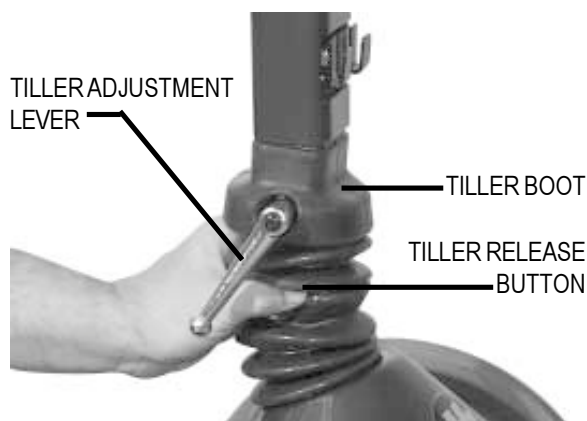

FIGURE 9A. ADJUSTING THE TILLER ANGLE
1. Turn the tiller adjustment lever counterclockwise until it is loose. If the tiller adjustment lever comes in contact with the tiller basket, pull it outward, turn it clockwise, and release it. Continue to loosen until the tiller is able to move. See figures 9A and 9B.
8. Turn the tiller adjustment lever counterclockwise until it is loose. Pull the rubber boot upward to expose the tiller release buttons. With one hand on the rear of the tiller, carefully depress both tiller release buttons while slowly lowering the tiller to the center of the floorboard. See figure 9A.